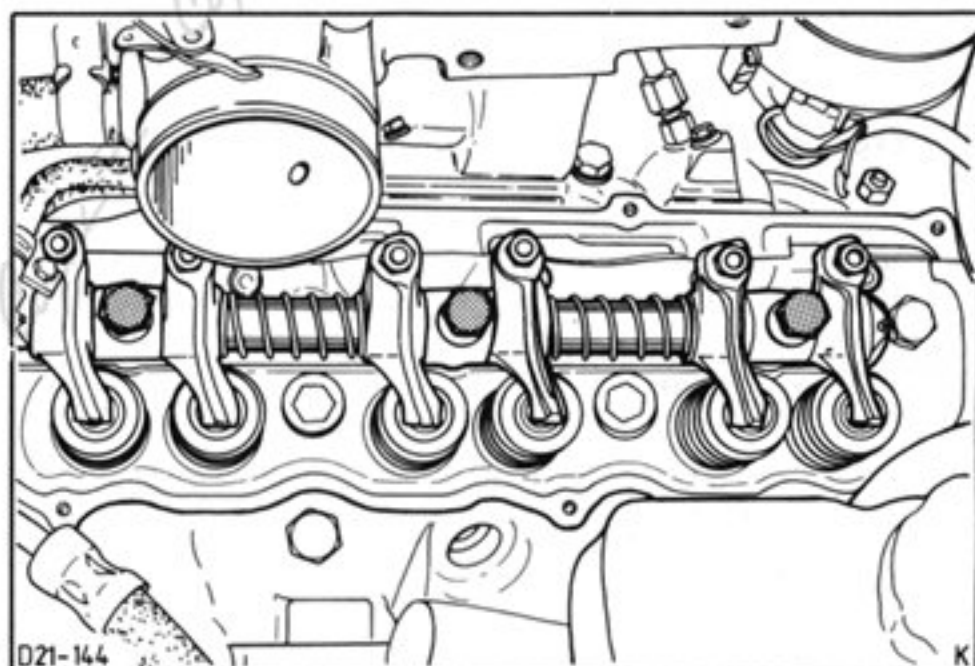

Fig.107. Remove rocker shaft with oil splash plate.
5. Unscrew spark plugs, remove rocker shafts (6 bolts) with oil splash plates, Fig.107, and remove push rods.